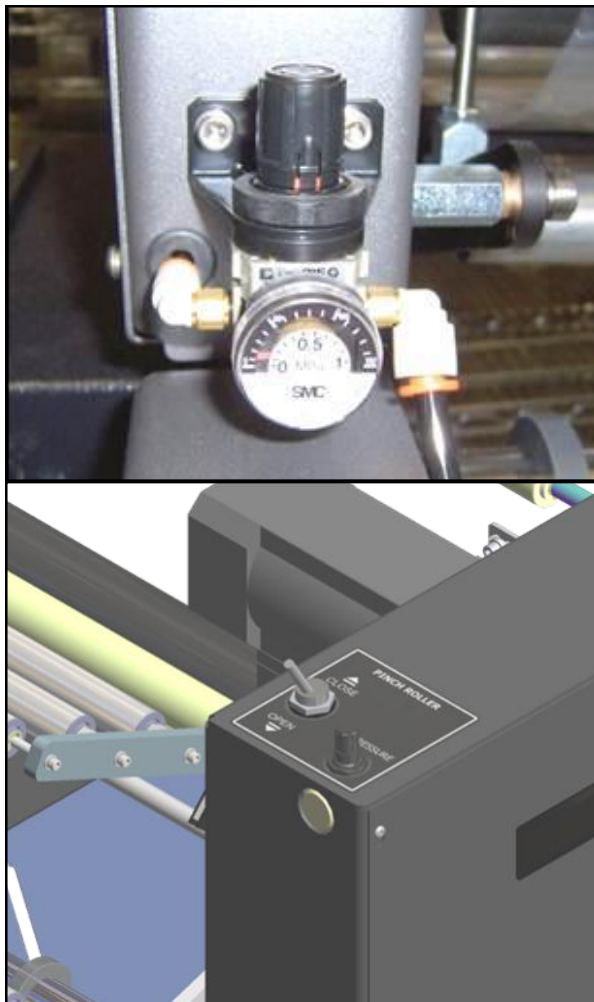

Figure 38A. BPU Air Pressure Regulators.
2. Lift the cap on the Pressure Regulator on the unwind. **Figure 38A.**